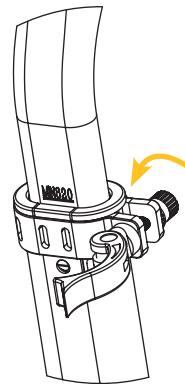

Figure 2
- Hold the quick-release head and loosen it in the direction of the arrow in Figure 2;